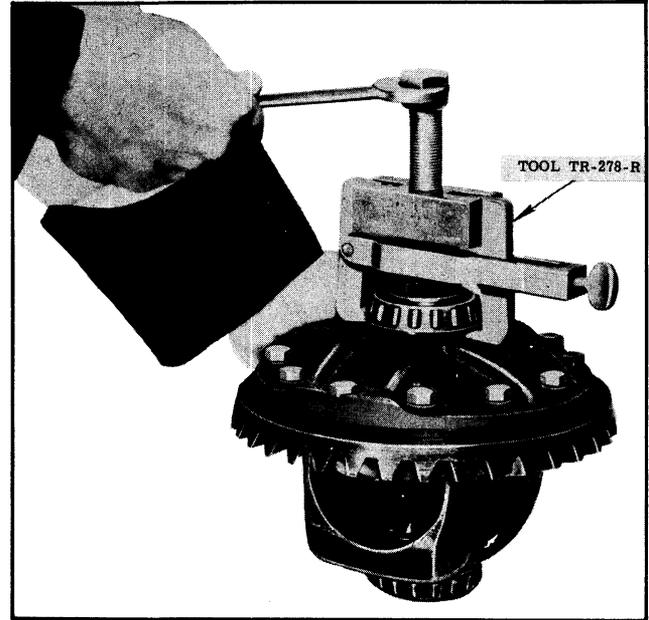

Fig. 6-22 Removing Side Bearings
23. Remove side bearing from case by using differential side bearing remover TR-278-R. (See Fig. 6-22) Be sure ends of puller are placed in recess in differential case. Light tapping on end of screw will aid in breaking bearing loose.